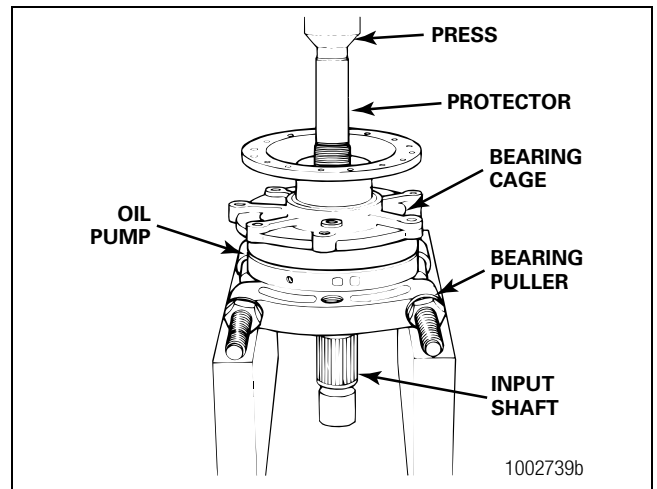

Figure 3.34
- B. Place the assembly on a press so that it rests on the puller. Figure 3.34.
- C. Place a protector on top of the threaded part of the shaft. Press the input shaft from the assembly. Remove the bearing puller. Figure 3.34.